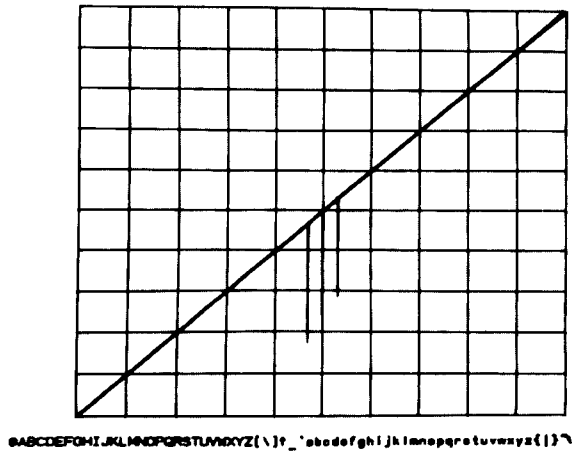

FIGURE 1. DIGITAL STORAGE TEST PATTERN
2. **DIGITAL STORAGE TEST PATTERN:** The test pattern shown in Figure 1 can be used to verify the existence of a failure. This pattern can be generated independently of the main processor in the RF Section (A15 Controller). To enable the test pattern: